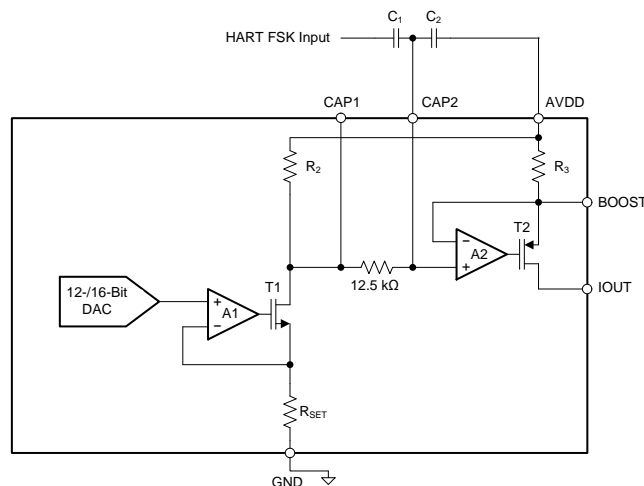

Figure 93. Implementing HART on IOU Using the CAP2 Pin
The first method of implementing HART is to couple the signal through the CAP2 pin, as conceptualized in Figure 93. Note that this pin is only available in the 40-pin VQFN package.
In Figure 93, R_3 is nominally 40 Ω , and R_2 is dependent on the current output range (set by the RANGE bits) as described below:
1. As is seen in Figure 93, CAP2 is directly connected to the input of the final IOOUT amplifier. Any noise or unwanted ac signal routed near the CAP1 and/or CAP2 pins could capacitively couple onto internal nodes and affect IOOUT. Therefore, with the QFN package, it is important to avoid routing any digital or HART signal trace over the CAP1 and CAP2 traces.